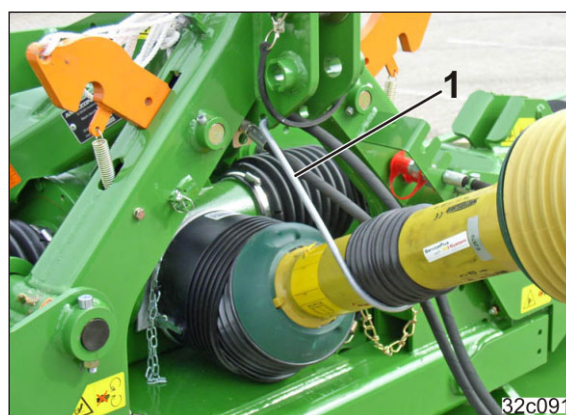

Fig. 72
9. Hook the universal joint shaft into the bracket (Fig. 72/1).